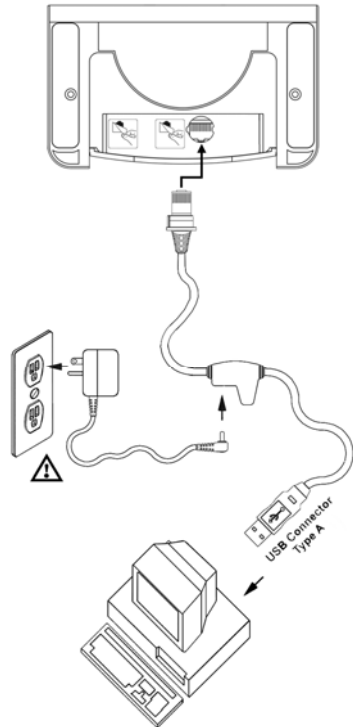

Figure 7. USB, Interface
1. Connect the keyed VLink cable to the 10-pin Multi-Interface jack. It is the only circular keyed jack located on the bottom of the 7820 (see figure 7).